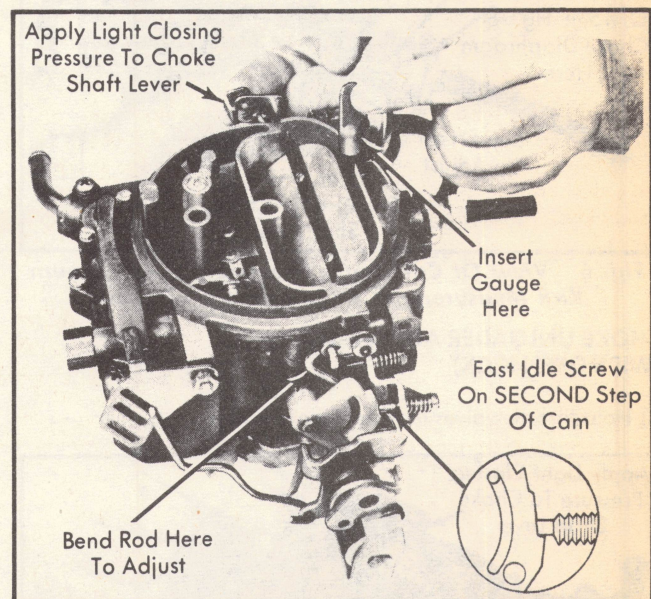

Fig. 5 Using Gauge To Measure Choke Valve Clearance For Fast Idle Cam Adjustment
- 2) Move choke valve towards closed position by pressing lightly on choke shaft lever. See Fig. 5.